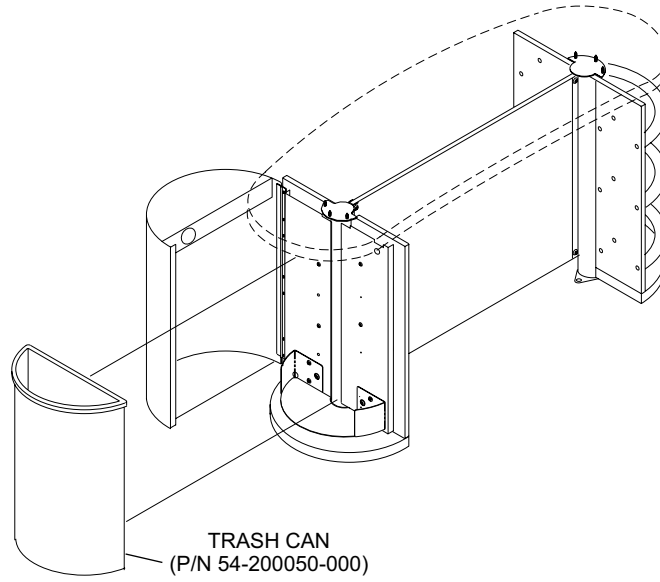

Figure 16
1. Install trash can (P/N 54-200050-000). Refer to *Figure 16*.